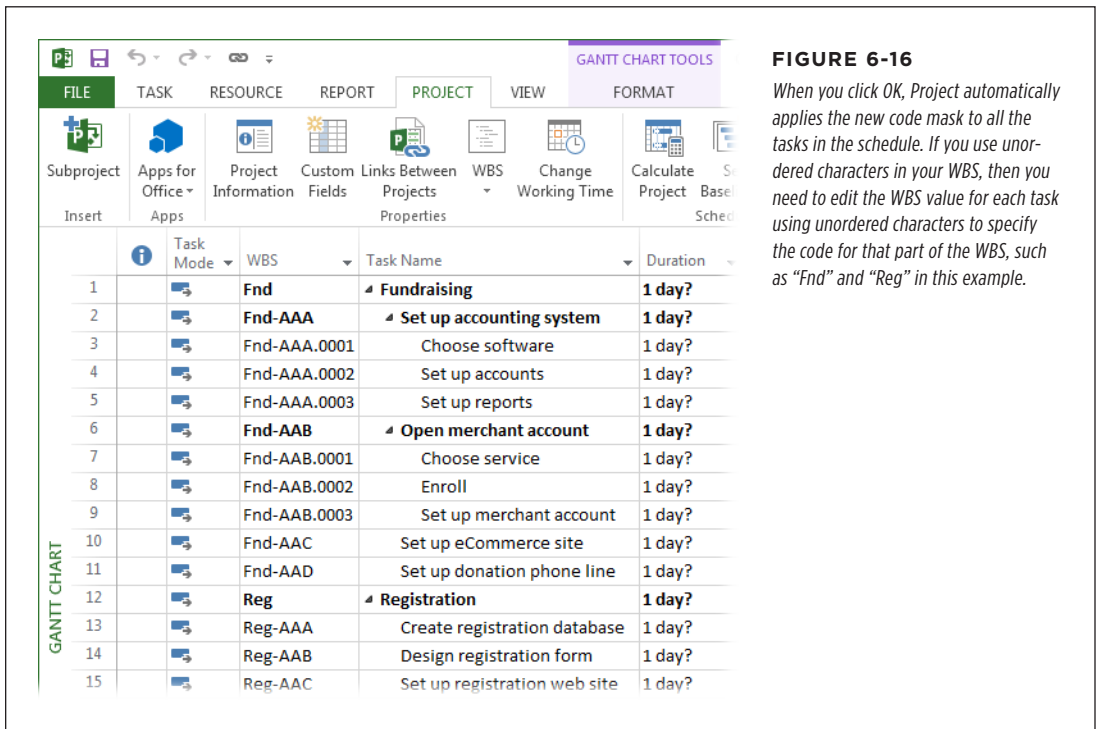

FIGURE 6-16
6. After you’ve defined all the levels in the code mask, be sure that the “Generate WBS code for new task” checkbox is turned on so Project will automatically assign a WBS code to new tasks you create. Click OK, and then review the refreshed WBS codes in the task list, as shown in Figure 6-16.